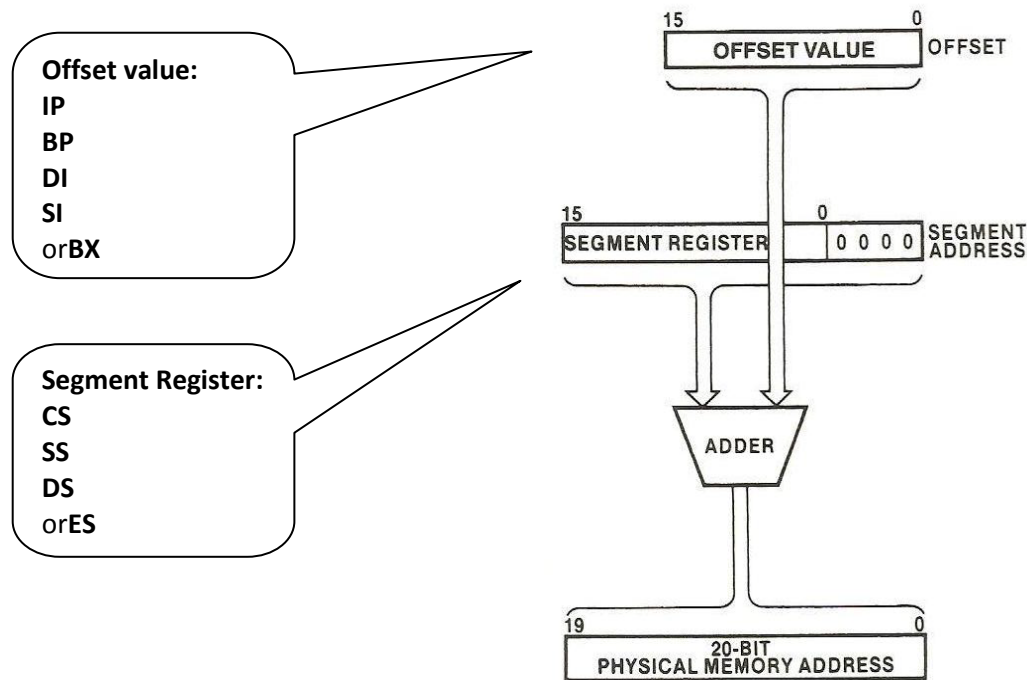

Fig 9: Generating a Memory Address
- 2 Add it to the offset(see Fig 9)